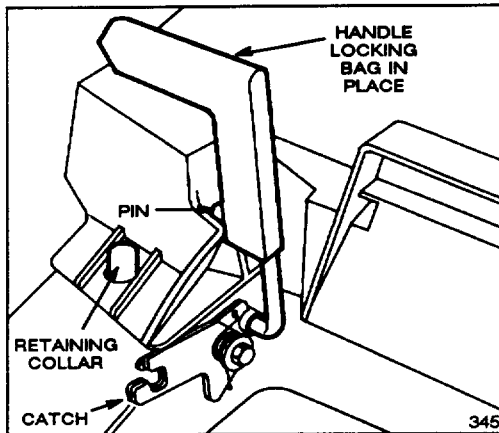

Figure 10
4. Pull discharge door handle forward until pin clears catch and move handle rearward until pin locks in bag notch (Fig. 10). Discharge door in mower housing is now open. It may be necessary to push down on top right of bag door to release handle locking pin from catch.